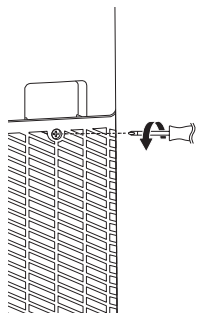

Figure 1
1. Unscrew the rear guard grid with a cross head hand screwdriver, PH2 type (Figure 1)